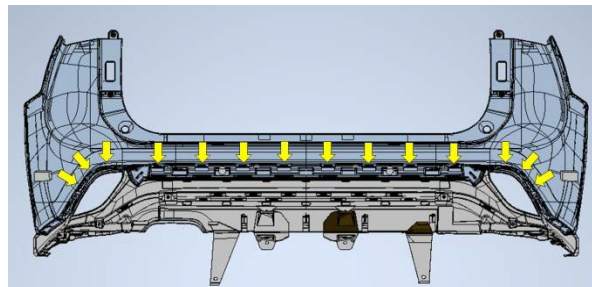

Fig. 10-8
(g) **XSE Grade:** Disengage the fourteen (14) claws, and remove rear bumper extension. (Figs. 10-8 and 10-9).